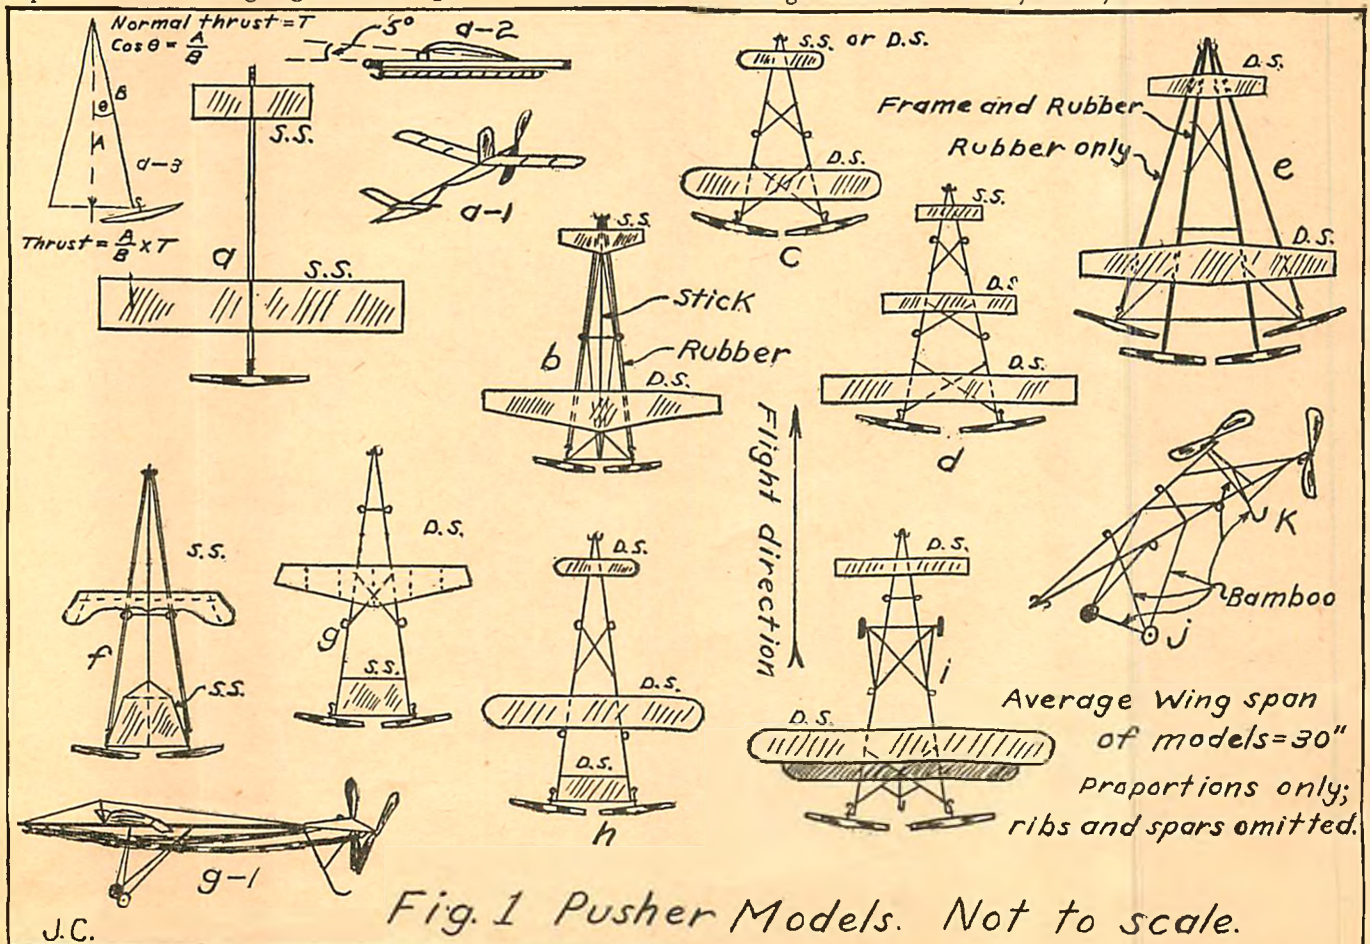

Fig. 1 Pusher Models. Not to scale.
A pusher model is one that is driven by one or more air screws that push or propel it through the air, see Fig. 1. Hence a pusher model is driven by *propellers*. A tractor model on the other hand, is one that is driven by one or more air screws that pull or draw it by traction through the air. Therefore a tractor model is driven by *tractors*. Exactly speaking, then, a tractor is an air screw that *pulls* an airplane and a propeller is an air screw that *pushes* an airplane; but through general usage, both forms of
**R**EFERRING back to Fig. 1, (a) shows the type known as a single-pusher, with single surfaced planes; that is, planes or wings that are covered on the top only. Often a simple model is made with sheet balsa or thin aluminum wings instead of with a single surfaced framed-wing design. In making reference to the drawings in these articles, remember that D. S. and S. S. mean respectively that the different designs of models so marked have, as a rule, either double surfaced or single surfaced wings. For instance a design marked D. S. indicates that for that particular type of plane the usual practice is to employ double surfaced wings.
At (a), Fig. 1, the small front plane is called the "elevator", and the rear big plane is known as the "main wing." Single-pushers should have a small vertical fin over or under the main wing. This is provided to increase lateral or side-to-side stability. If the fin is placed beneath, it can serve also as a protective skid for the propeller. As with all cut-down pusher models having a small front plane or elevator, a block is set under the front or leading edge of the elevator so that it will have a greater angle of incidence than will the main wing, to the line of thrust.
The angle of inclination that a wing makes with the relative wind is known as the "angle of attack," and the angle a wing is set to the propeller shaft or line of thrust is known as the "angle of incidence." On some models, especially twin-pushers, the angle of incidence of the elevator or front small plane is increased by bending the front edge of the surface up in a wide Vee-shape and leaving the rear or trailing edge straight. In Fig. 1, (a-1) and (a-2) show respectively the vertical fin for lateral stability and the setting of the elevator for longitudinal stability, which is usually from 5 to 10 degrees greater angle of incidence than the main wing.
(b), Fig. 1, shows a pusher model similar to (a) but modified to carry two propellers, making it a twin-pusher. The particular type at (b) is known as a "T-frame pusher." Note the cross-piece shown in the middle of the motor-stick. This piece carries wire loops or "cans" at each end through which the rubber motors pass; this eliminates the tendency of the frame to weave or buckle under the tension of the tightly wound rubbers.